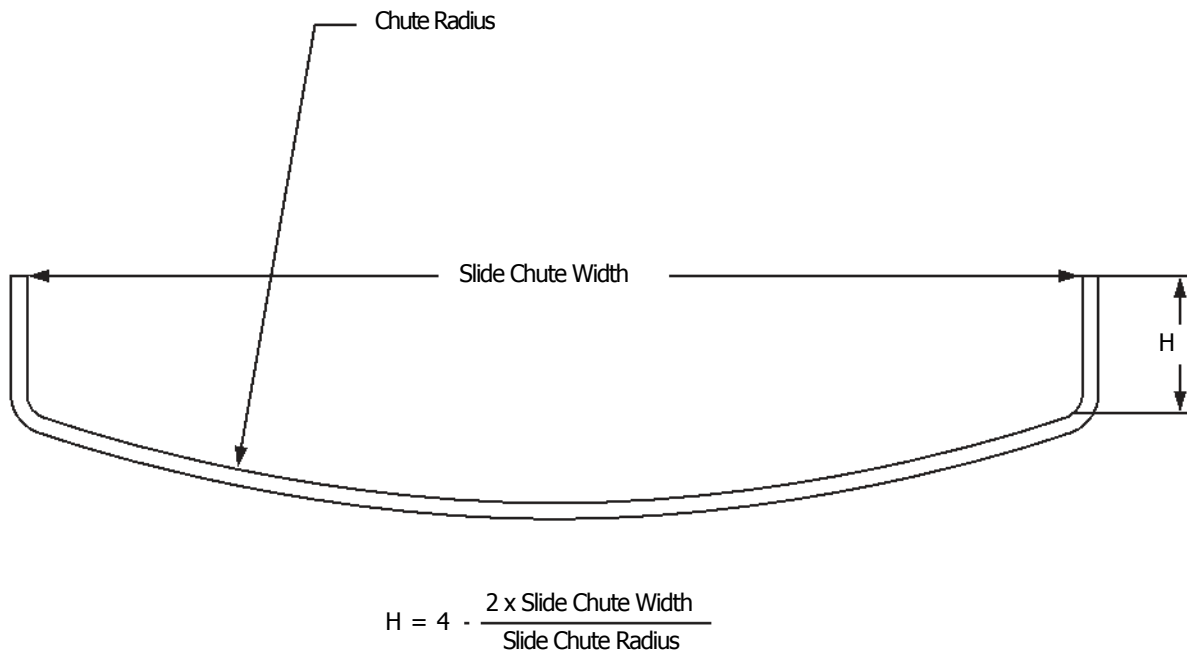

Figure 20. Formula for Minimum Vertical Side Height for Slide with Curved Chute
- the vertical height of the sides is no less than 4 inches minus two times the width of the slide chute divided by the radius of the slide chute curvature (see Figure 20).